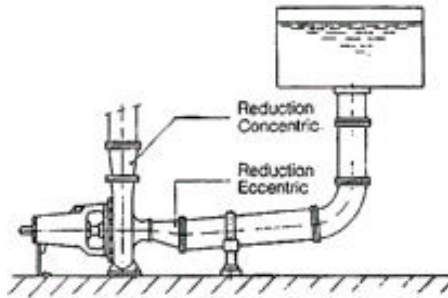

Fig 11- Positive Suction
- c) If the sump connection is at a different level than the pump inlet, the suction piping should be installed with a gradual rise slope to the pump. Avoid sharp bends and restrictions. Be certain the suction pipe is properly supported to keep excess loads off the pump flange and casing. (See Fig. 10 and Fig. 11)